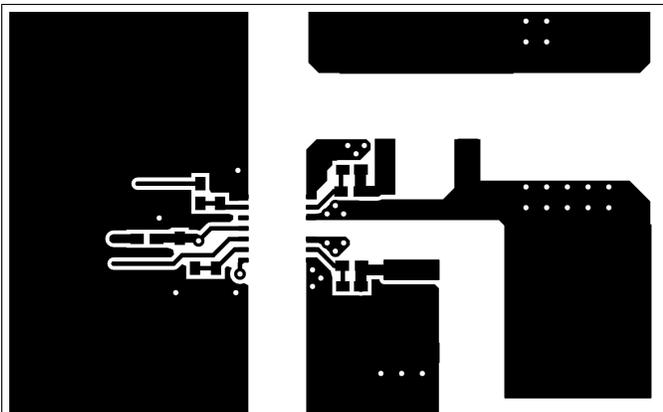

图 42. Top Layer Traces and Copper
- Increasing the PCB copper connecting to VDDA, VDDB, VSSA and VSSB pins is recommended, with priority on maximizing the connection to VSSA and VSSB (see 图 42 and 图 43). However, high voltage PCB considerations mentioned above must be maintained.
图 42 and 图 43 shows top and bottom layer traces and copper.